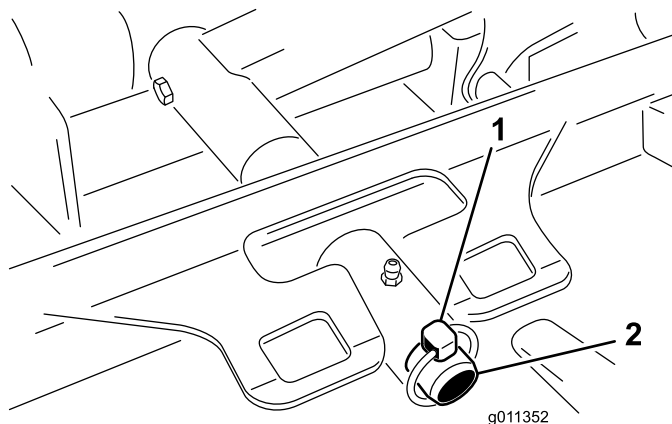

Figure 66
3. Remove the lynch pin or retaining nut (GM 4700 only) securing the deck carrier frame to the lift arm pivot pin (Figure 66).
3. Slide deck carrier frame onto lift arm pivot pin. Secure with lynch pin or retaining nut (GM 4700 only) (Figure 66).